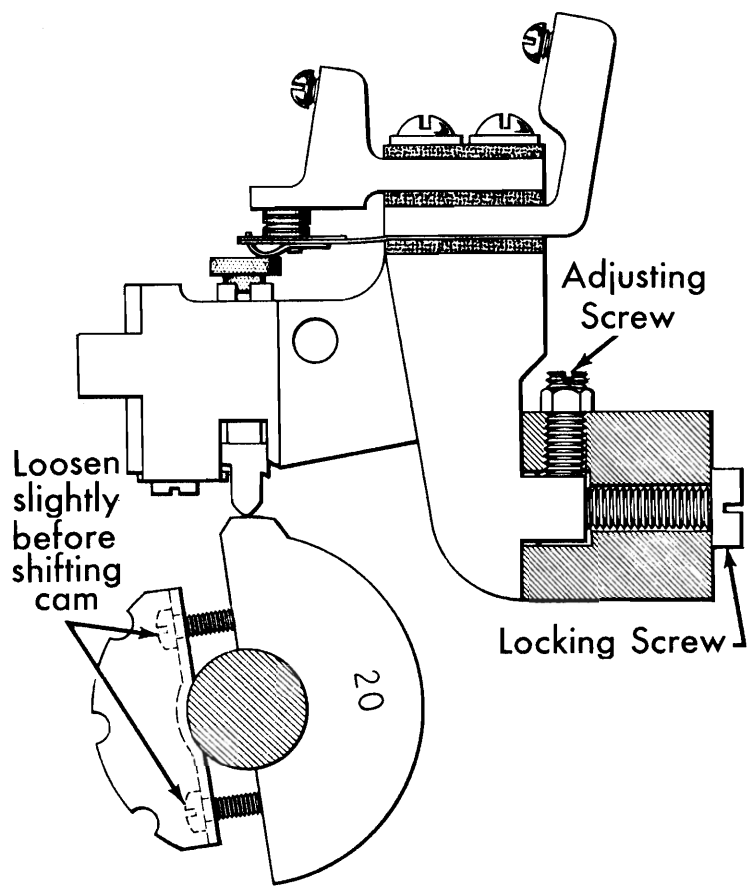

Figure 6. Plunger Circuit Breaker Adjustments 4 and 5
4. Locate the cam contact unit on the mounting bar with the plunger on the highest point of the cam lobe and the contact points just closed (Figure 6), and advance the adjusting screw one-half turn to obtain a .010" to .015" additional movement of the plunger. The total rise from the low dwell to the high dwell of the cam is .065". With the air gap set for .015" to .018" and the contact assembly correctly located on the mounting bar, the clearance between the cam plunger and the low dwell should not be greater than .018". This may be checked by inserting an .018" gauge between the low dwell of the cam and the plunger and observing any perceptible movement of the contact strap. This indicates that the additional travel of the plunger, after the contact is closed, will be sufficient to compress the plunger spring and provide good contact
5. To adjust the make time of the contact, loosen the screws holding the cam to the shaft (Figure 6) until the cam is just snug on the shaft. Turn the machine to the index point corresponding with the make time of the cam. Move the cam on the shaft in the direction of rotation until the contact just closes. The machine may now be turned to a point where the cam holding screws can be tightened. The circuit breaker cam clamp is provided with notches and accurate adjustment of the cam may be obtained by tapping lightly against the notch with a screwdriver.